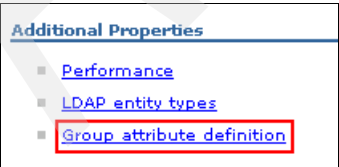

Figure A-30 Clicking Group attribute definition for WebSphere Business Monitor
- 21.Under Additional Properties, click **Group attribute definition** (Figure A-30).